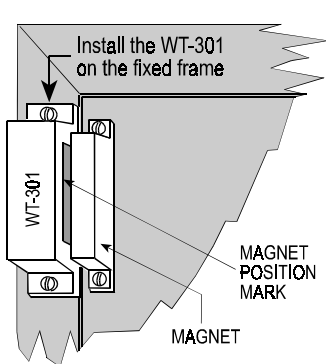

Figure 4. Surface Mounting
**A. Surface mounting (see Figure 4):**